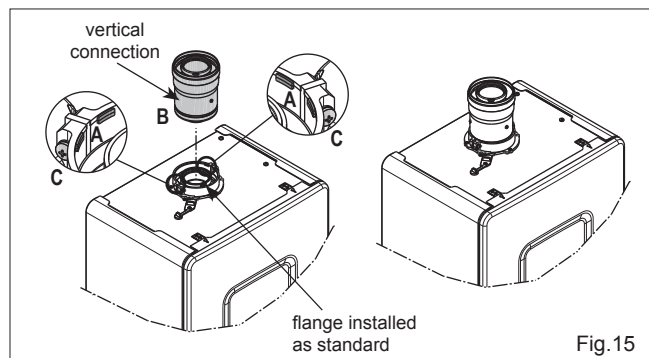

Fig. 15
**NOTE - fig. 15:** the appliance incorporates a 'click-fit' flue connection. Ensure that both screws 'C' on the 'click-fit' have been slackened off. Ensure that the connector is correctly aligned with the 'click-fit' and insert it into the 'click-fit' until it clicks into position (this is when the tabs at points 'A' are located in the groove of the vertical flue connector). Both screws (C) should now be tightened.